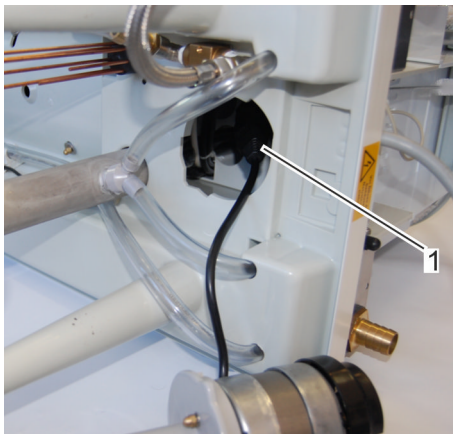

Fig. 48: Disconnecting the plug connection
7. ➔ Disconnect the plug connection (Fig. 48/1).